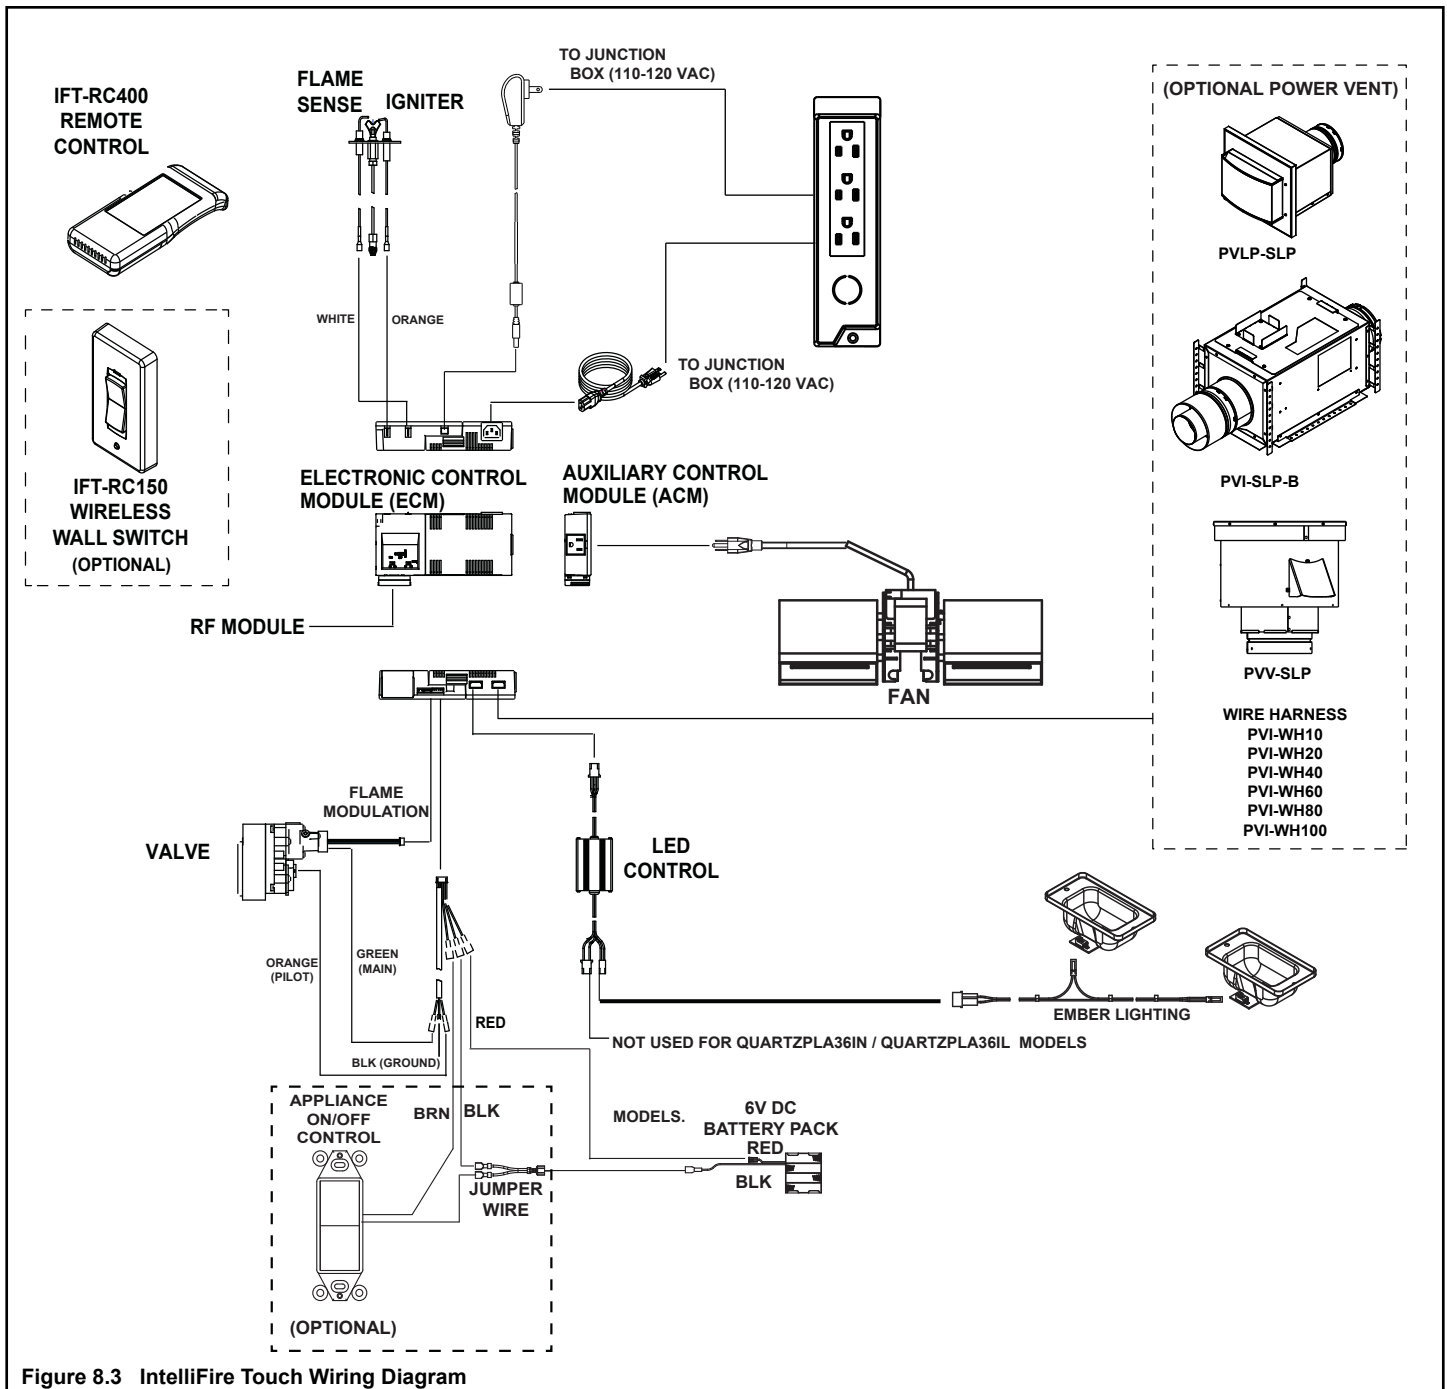

Figure 8.3 IntelliFire Touch Wiring Diagram
- Refer to Figure 8.3, IntelliFire Touch (IPI) Wiring Diagram.